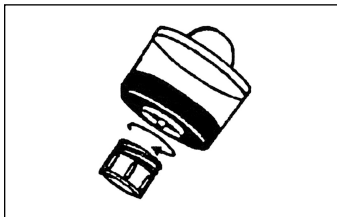

Figure 4
- To remove the remaining retentate, twist the insert release onto the sample reservoir (Figure 4).